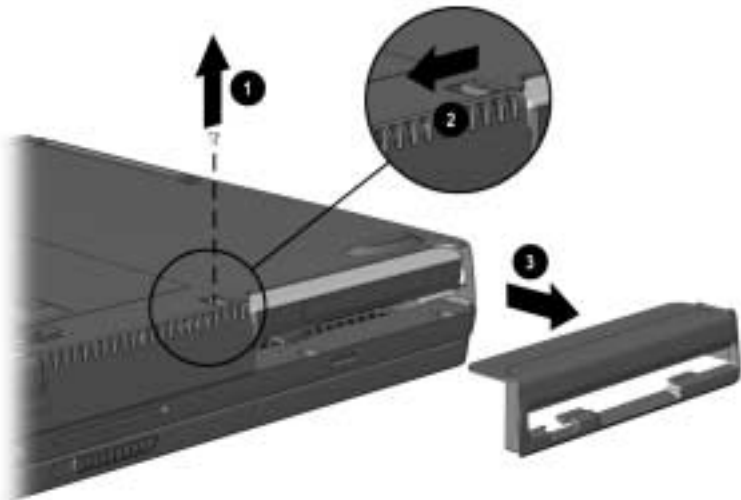

Figure 5-18. Removing the Diskette Drive Bezel
3. **(Armada V300 only)** Remove the screw ❶ that secures the diskette drive bezel to the base enclosure (Figure 5-18).
4. **(Armada V300 only)** Slide the diskette drive release latch to the left ❷.
5. **(Armada V300 only)** Remove the diskette drive bezel from the base enclosure ❸.